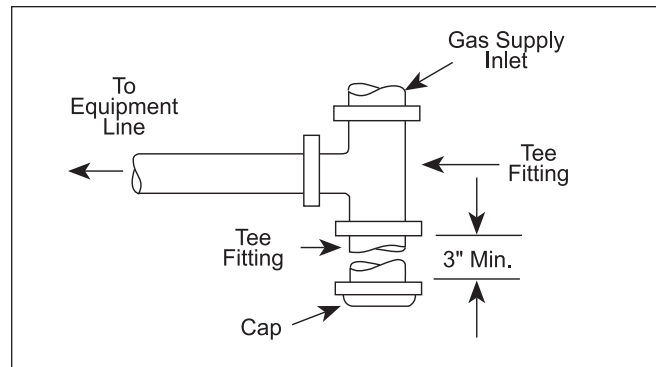

Figure 5. Tee Fitting Sediment Trap.
3. A trap (drip leg) must be provided ahead of the gas controls (see Figure 5). Where required by code, provide a second manual gas shutoff valve. Do not remove manual valve furnished with the unit.